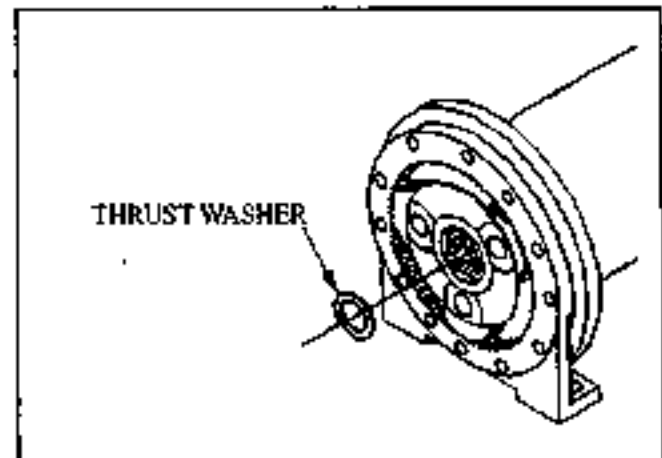

Figure 17
- (16) Remove the thrust washer and the spirolox retaining ring. See Figure 17.